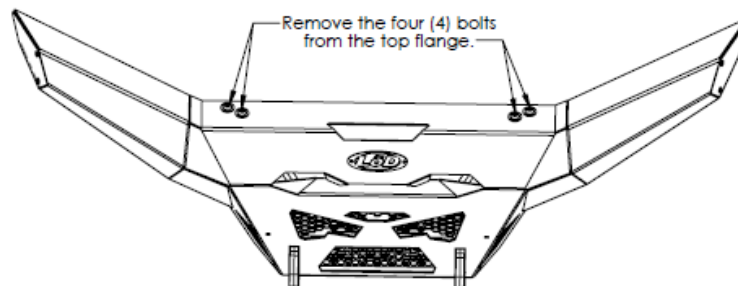

Figure 2. Remove Bolts from Top Flange of Bumper
1. Remove the bolts from the top flange of the bumper as shown in Figure 2.